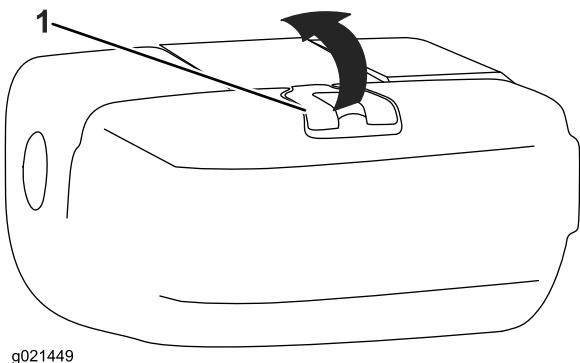

Figure 9
3. Clean around the fuel tank cap and remove it (Figure 9).
- 5. Install the fuel-tank cap securely (Figure 9).